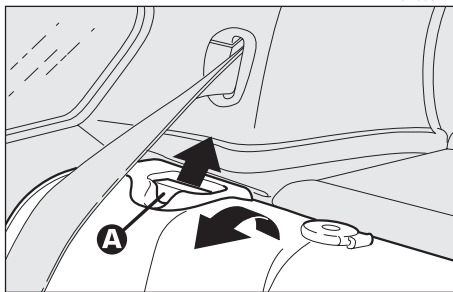
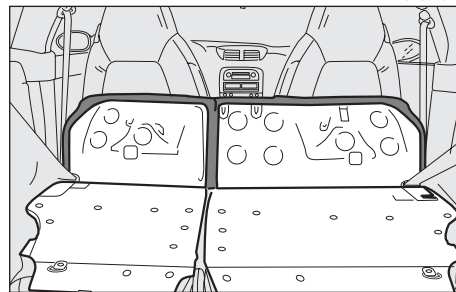

fig. 21
fig. 22
- crossways between the front seat back reats and the tilted cushions of the rear seats if the boot is extended totally (see **fig. 22**).
— raise the levers (**A-fig. 21**) retaining the back rests and tilt them forwards to obtain a single loading surface (**fig. 22**).
— raise the seat backs, pushing them backwards until hearing both clamping devices click into place, checking that the “red band” can no longer be seen on the upper part of the levers (**A-fig. 21**). In fact, this “red band” indicates that the seat back is not clamped;